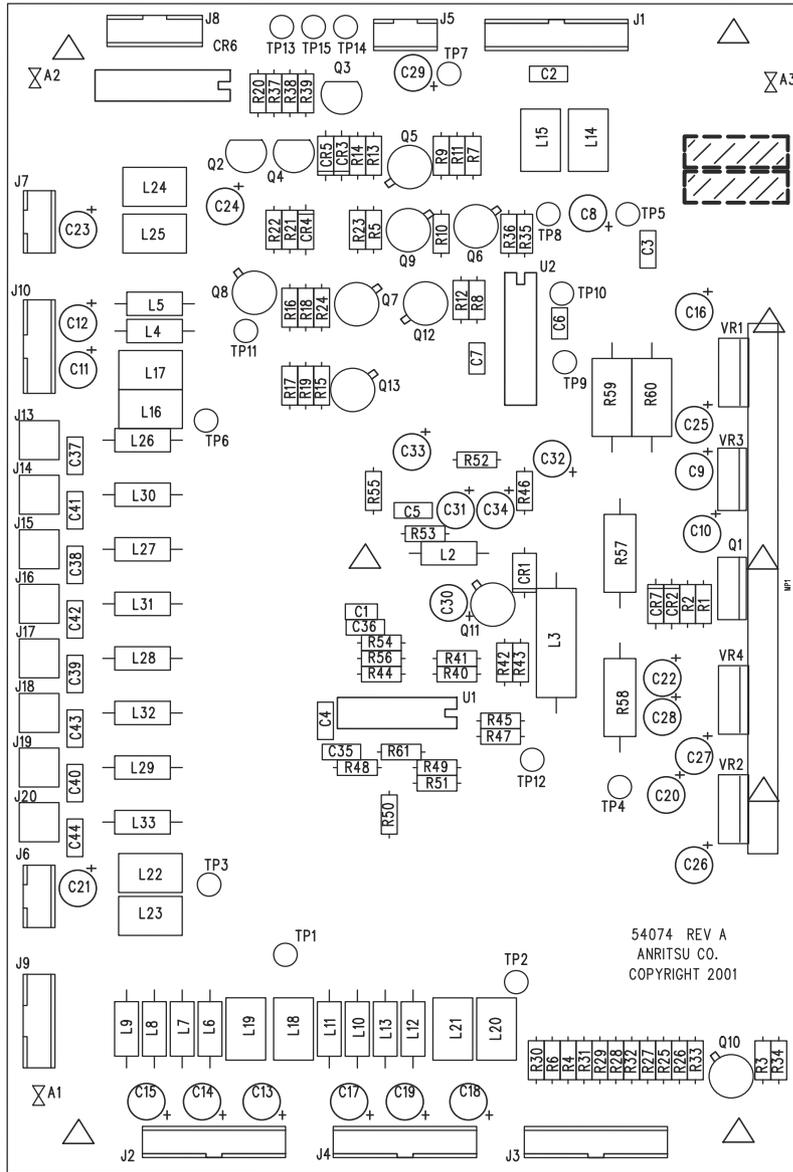

Figure 5-1. Control PCB Assembly Test Point Locations
4. Use a digital multimeter to measure the DC voltages at the test points stated in Table 5-1, “Power Supply Expected DC Voltages” on page 5-3 on the 54074-3 Control PCB Assembly and verify if DC voltages are present and at the expected level. Refer to Figure 5-1, “Control PCB Assembly Test Point Locations” on page 5-4 for test point locations.
6. Use a digital multimeter to measure the signal at the test points stated in Table 5-2, “Forward Sweep Control Signals” on page 5-5 on the 54074-3 Control PCB Assembly and verify if the signals are present and at the expected level. Be sure to use the sequence shown in the table when diagnosing and determining which part to replace. Refer to Figure 5-1 on page 5-4 for test point locations.